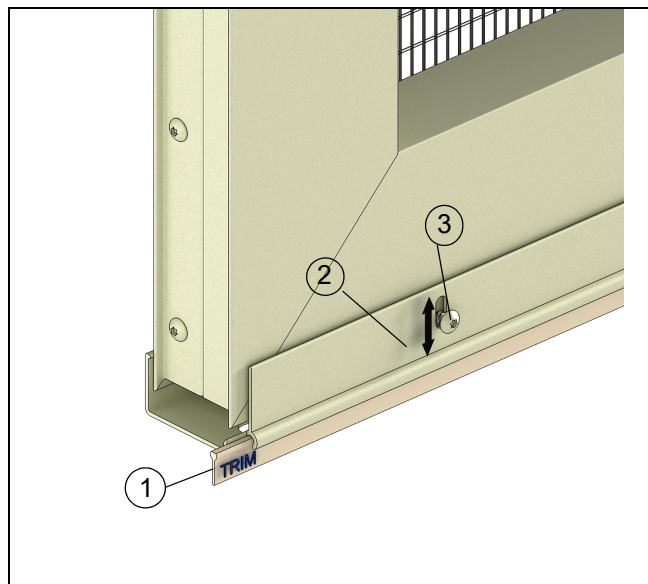

Figure 14
2. Check to see if the sill is resting on the sill track evenly. If not, loosen the screws, adjust the sill sweep and tighten the screws. See Figure 14.